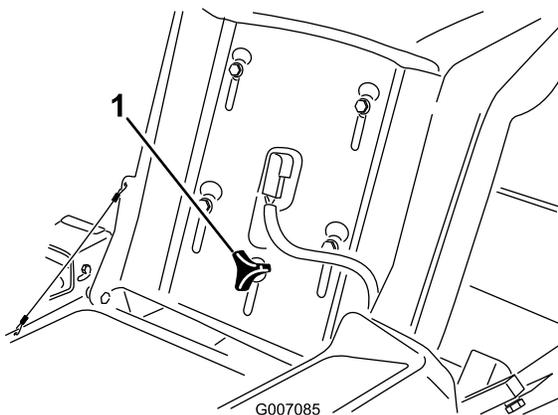

Figure 17
- Raise the seat and loosen the adjustment knob just enough that seat can move (Figure 17).